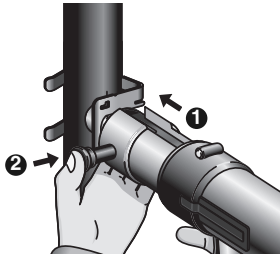

Figure 13 – Attaching Press Tool To Expander
2. Slide the press tool over the expander (1) and fully close the attachment-mounting pin (2). (See Figure 13). The tool will not operate unless the mounting pin is fully closed. Keep your hands on the press tool to align and support it. Do not hang the press tool from the pipe.